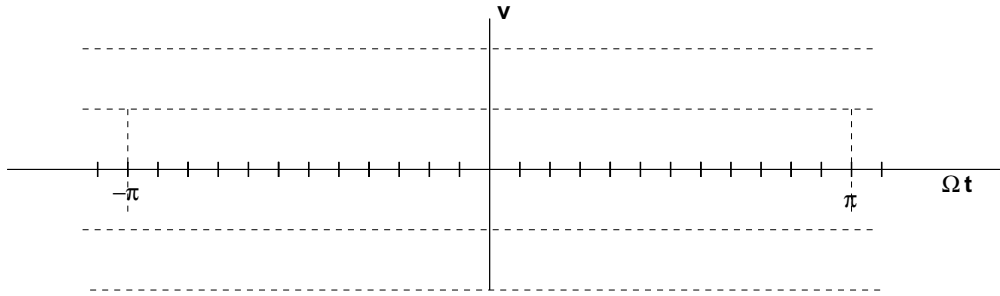

Figure 3: Your answer for voltage vs. rotor position for a concentrated winding
1. If the stator winding has a total of 20 turns and is concentrated (in a single slot per pole) and the rotor is turning at a speed of $\Omega = 500\text{Radians/second}$, find and sketch the voltage induced in the winding. Use Figure 3 and plot voltage against rotor position. Note: this is *physical* rotor angle.